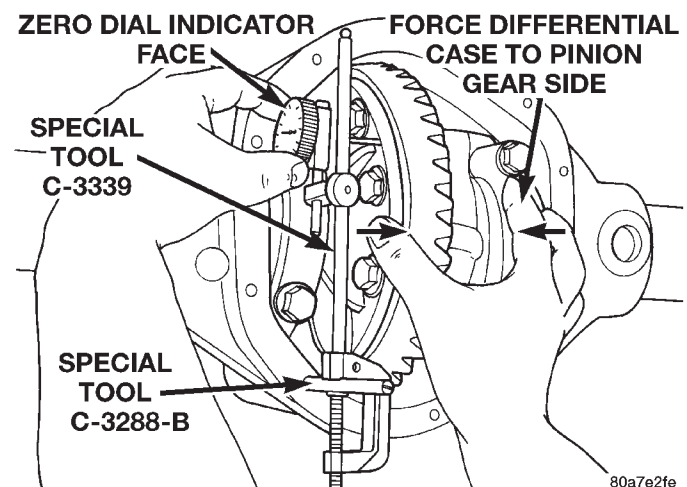

Fig. 66 Hold Differential Case and Zero Dial Indicator
(10) Push and hold differential case to pinion gear side of axle housing (Fig. 66).
(11) Zero dial indicator face to pointer (Fig. 66).